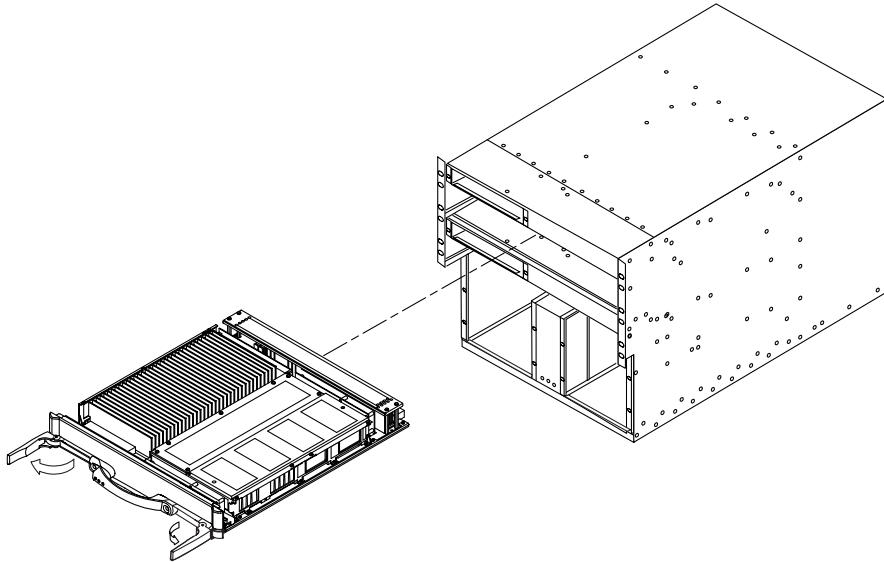

FIGURE 8-8 Removing and Replacing a CPU/Memory Board—Sun Fire 3800 System
- For the Sun Fire 3800 system, remove the board by holding the handle, supporting the bottom with your other hand and sliding the board out of the slot (FIGURE 8-8).